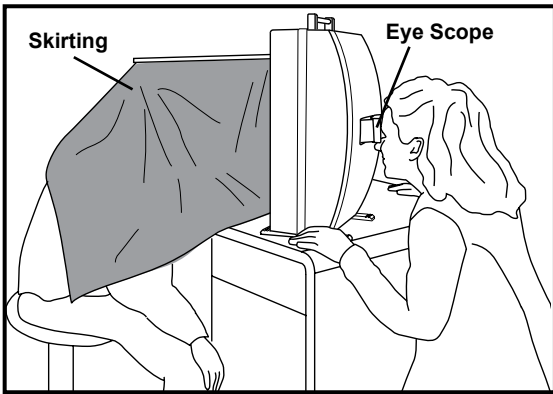

Figure 7
2. Have the client face the front of the concave mirror and adjust the mirror angle for their own viewing convenience (fig. 7).